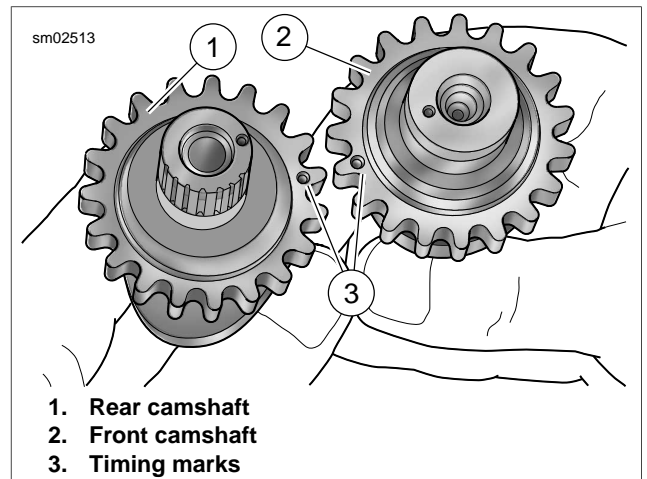

Figure 3-115. Camshaft Timing Marks
1. See Figure 3-115. Align timing marks on teeth of secondary cam sprockets (outboard faces).